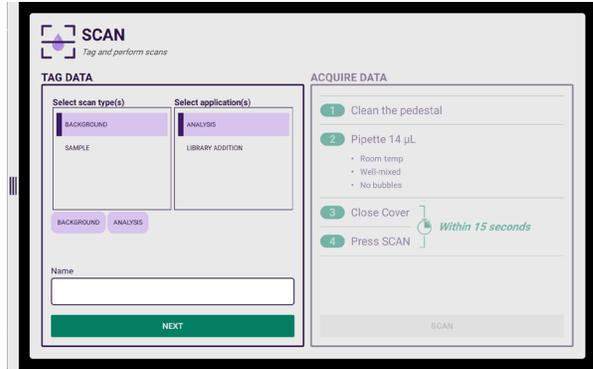

Figure 9. Tag data by scan type [background, sample] and intended purpose [analysis, library addition] before scanning.
2. On the Scan menu, in Tag Data, select the relevant tag(s) to designate as either a sample or a background, or both. Further, select whether the scan is for either a library addition or sample analysis, or both (Fig. 9).